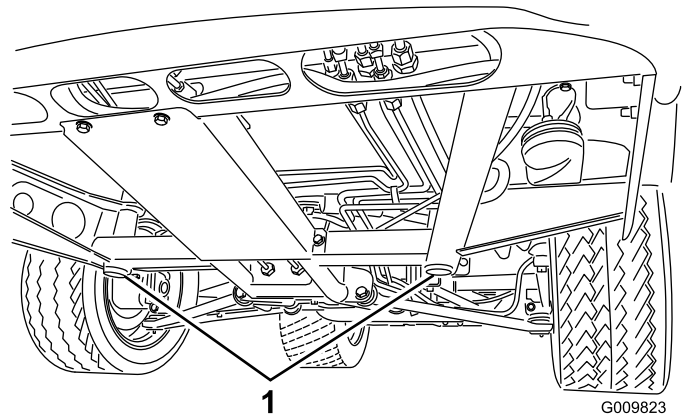
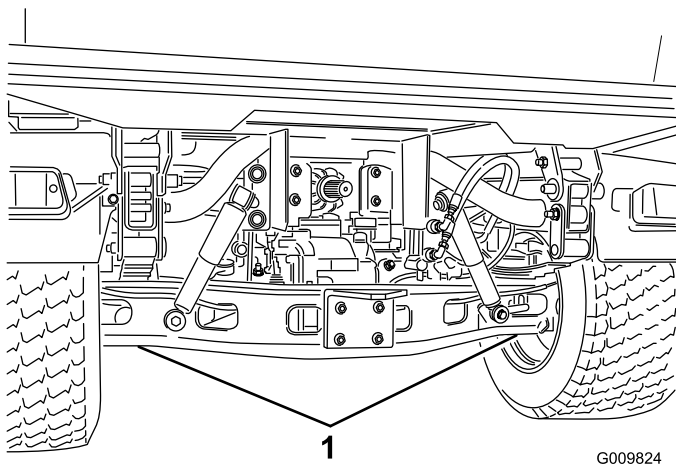

Figure 26
Figure 27
- The jacking point at the front of the machine is under the front center frame support (Figure 26) and at the rear it is under the axle (Figure 27).